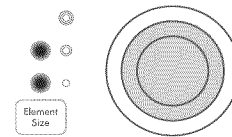
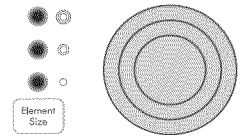

Fig. 4
Fig. 5
4. Select the ○ (See Fig. 3), ◎ (See Fig. 4) or ◎ 3 elements (See Fig. 5) to heat by pressing the  pad once, twice or three times (Figures 5 & 6 show indicator lights with ALL 3 elements selected).